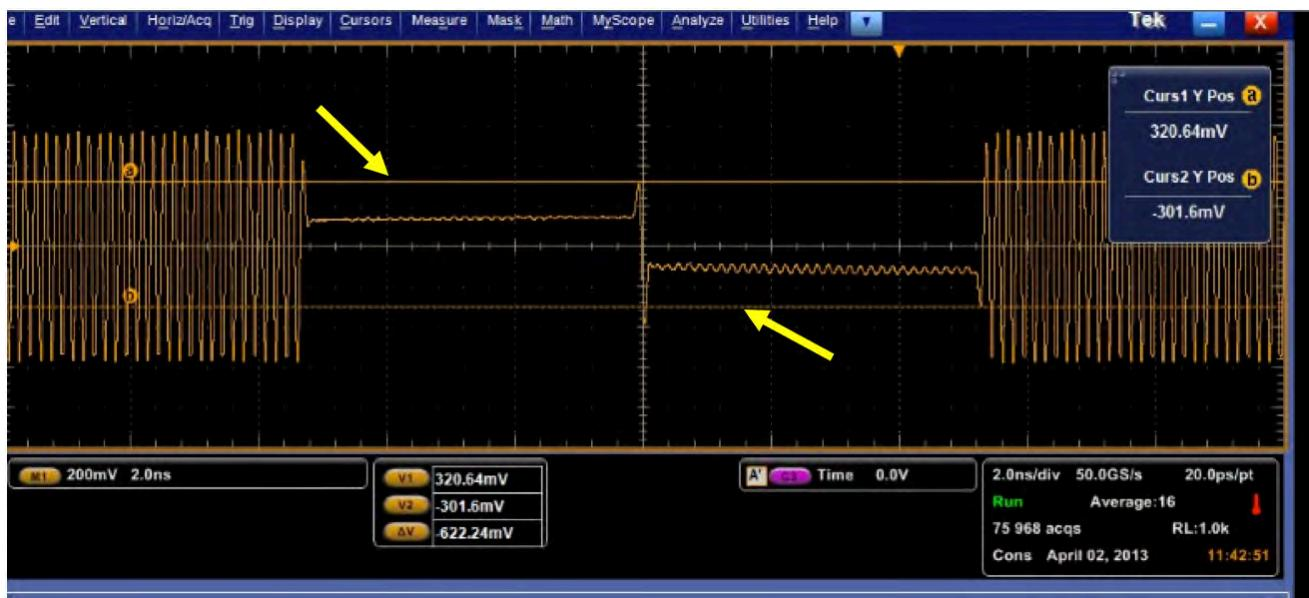

FIGURE 42. MEASURED PRESHOOT AMPLITUDE (EXAMPLE 622mV)
1. Using cursors, measure pre-shoot amplitude, as shown in Figure 42.